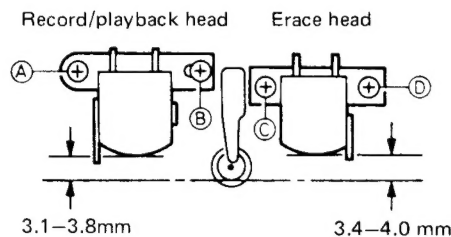

Fig. 9
- 1) To replace the record/playback head, remove two screws (A) and (B) shown in Fig. 9.
- 2) To replace the erase head, remove two screws (C) and (D) shown in Fig. 9.
- 3) When pressing the playback button, adjust these heads with the screws and the adjustment hole so that they are located as shown in Fig. 9.
- 3) Adjust the head angle by turning screw (B) shown in Fig. 9 so that the phase difference between the L and R outputs is 0° and the outputs are maximum.
- 4) After adjustment, be sure to paint-lock screw (B).